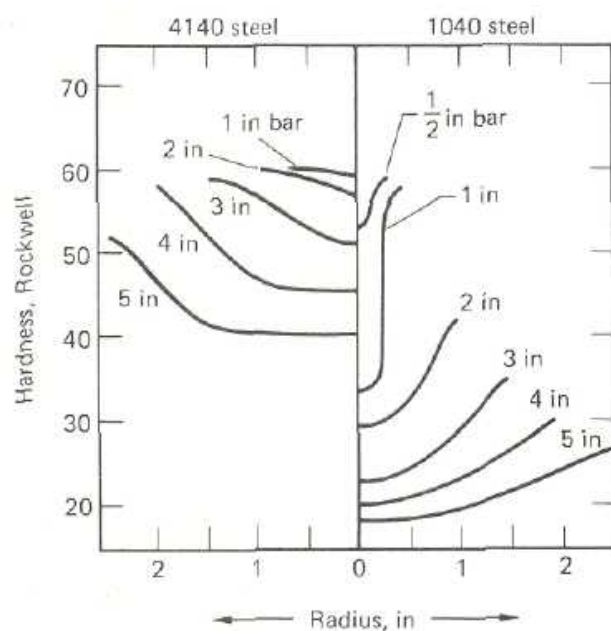

Fig. 17.2. Comparison of the hardenabilities of 4140 and 1040 steels
**Hardenability** refers to the distance within a **specimen** normal to its **surface** that appreciable hardness can be developed. Since the **quenching rate** of a steel is limited by its heat **diffusivity** and the rate at which **austenite** can transform, the hardenability of steels depends on the alloy content and the **grain** size of the original austenite. **Hot-work** steel **die** blocks, which must be hardened throughout their mass, are alloyed to such an extent that they can transform to a **bainitic** structure with an air quench. The hardenability of a typical alloy steel and a plain carbon steel are compared in fig. 17.2. Note that for all sections above 1/2-in. diameter the **plain** carbon steel could not be quenched sufficiently rapidly to achieve full hardness even at the **outside diameter**.